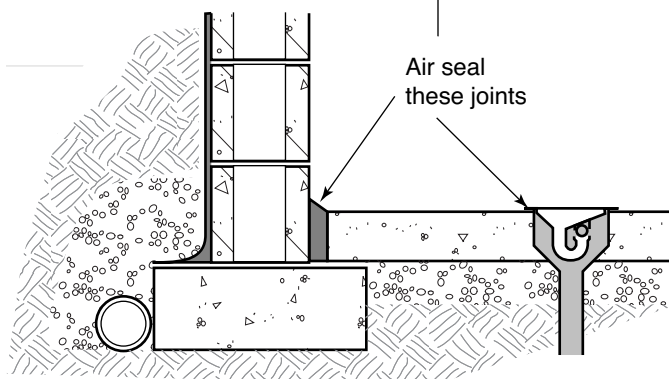

FIGURE 30
- ◆ Make sure that air is not leaking into the building around the floor drains. Install a trap primer to ensure that the trap at the floor drain never dries out (see Figure 30).